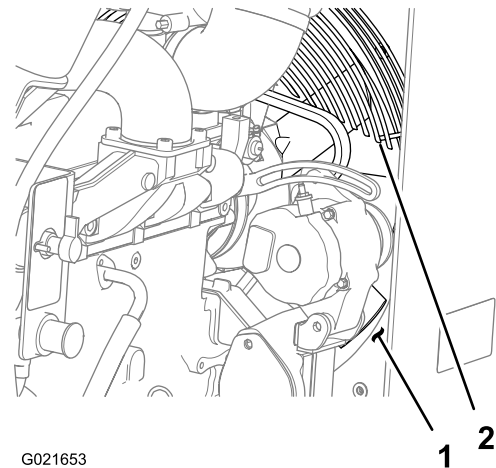

Figure 88
7. Rotate the fan guard counterclockwise around the drive shaft of the fan until the opening in the guard is at the 4 o'clock position (Figure 88).